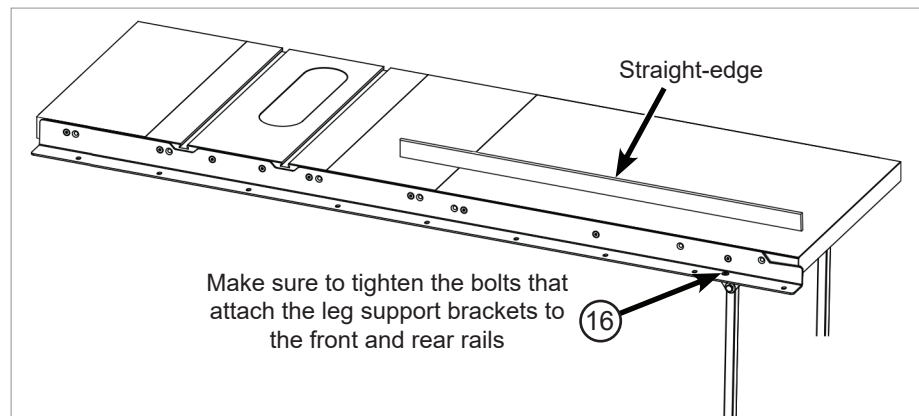

Fig. 24
14. Use a straight-edge to level the front edge of the extension table to the saw table (**See Fig. 24**). You may have to pull up or push down on the extension table to level it. Once the front edge of the extension table is level, use a 5 mm hex key and a 13 mm wrench to fully tighten the nuts on the bolts along the front rail. Repeat the process to level the rear edge of the extension table. Also fully tighten the bolts that attach the leg support brackets to the front and rear rails (bolts 16 in step 8).